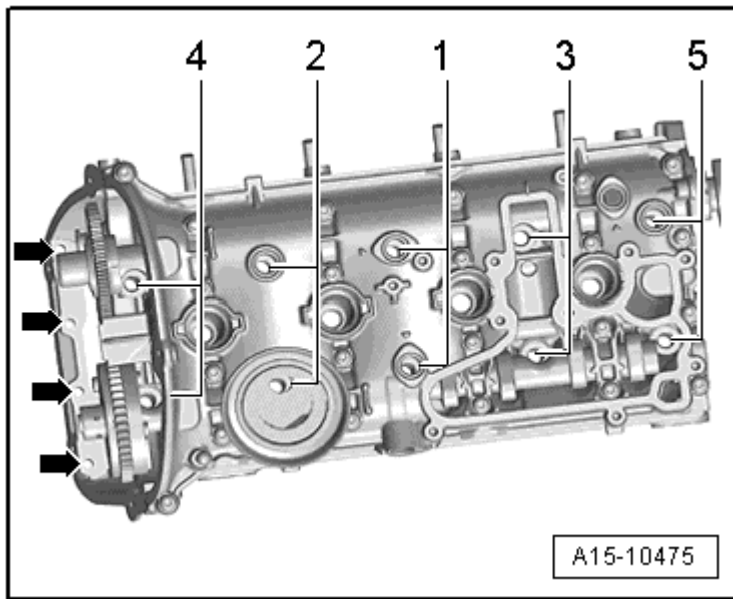

Fig. 4: Cylinder Head Tightening Sequence
- Tightening sequence, refer to **Fig. 4**.
- Observe the sequence for tightening, refer to **Fig. 4**.